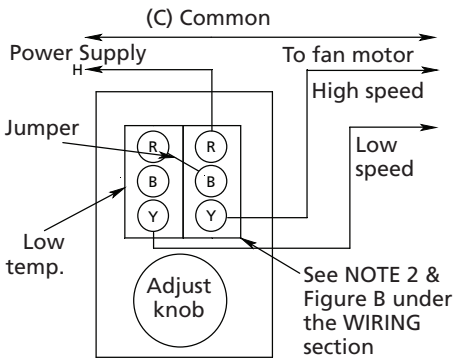
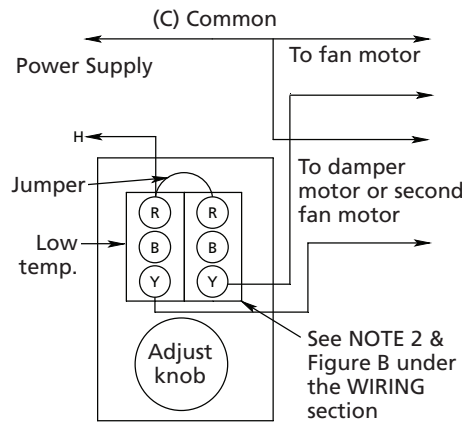

Figure 4 – Two-stage SPDT/SPDT Thermostats in Control of a Two-speed Ventilating Fan
Figure 5 – Two-stage SPDT/SPDT Thermostats in Control of a Single-speed Ventilating Fan and Volume Increase Damper Motor
Figure 4 shows wiring for controlling a two-speed ventilating fan. When the control element reaches the knob settings, the low temperature switch starts the fan on low speed. If the ambient temperature continues to rise, the high temperature switch supplies power to the high-speed motor winding.
Figure 5 shows a typical SPDT/SPDT connection for a two-speed fan application. The damper motor will be energized when the temperature reaches the knob setting. If the temperature continues to rise, the fan motor will be energized by the high temperature switch.
- Thermostats with SPDT/SPDT 2 Stage switching: If connection is similar to Figure 4, fan should start at approximately ambient temperature and should change to high speed, as the knob is turned counterclockwise to a lower temperature setting. If wiring is similar to Figure 5, the damper should open as the knob is turned counterclockwise (to lower temperature setting). The devices should act in reverse sequence when the knob is turned clockwise.